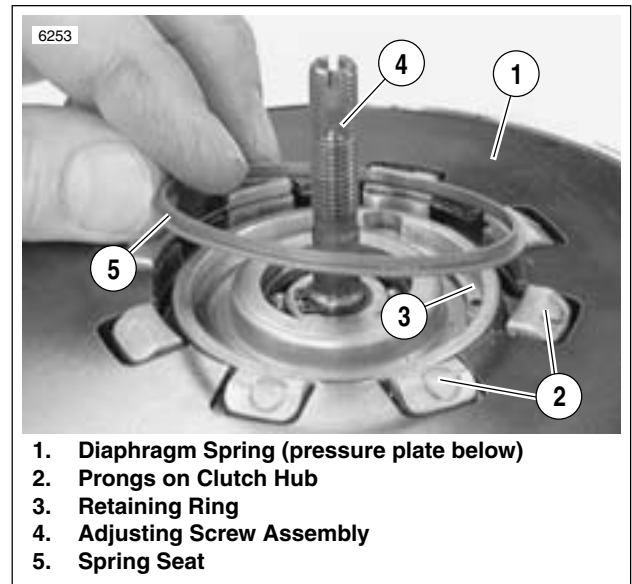

Figure 6-27. Spring Seat Installation
- a. See Figure 6-27. Align square openings of pressure plate and diaphragm spring so that the assembly can be installed over prongs of clutch hub.
- b. See Figure 6-27. Position diaphragm spring with its concave side facing toward pressure plate onto pressure plate assembly.